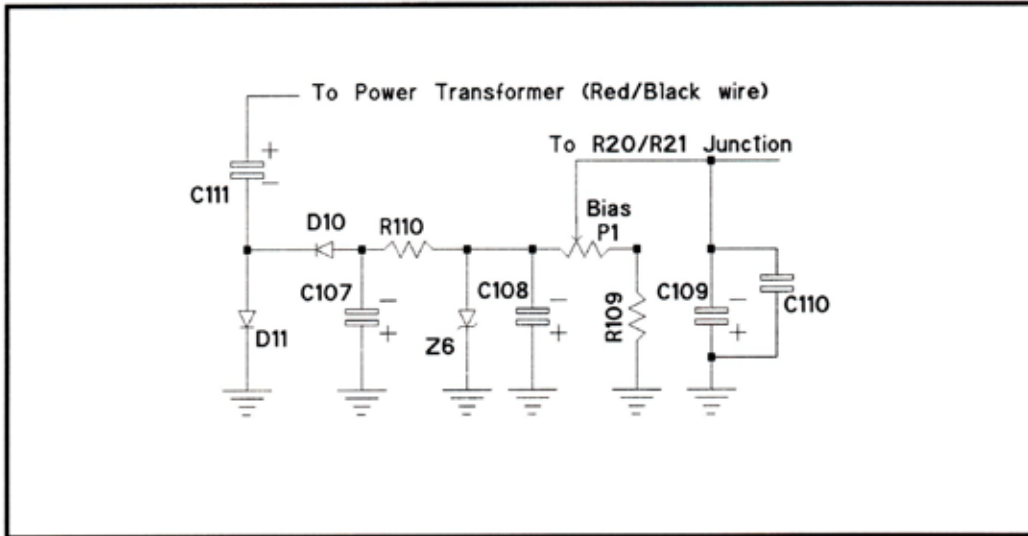

Figure 3. Bias Circuit
- 3) The bias circuitry is hardwired using one or two terminal strips and is best located by the regulator board. Connect all bias circuit grounds to one point on a solder lug of the terminal strip. The bias circuit input connects to the power transformer's red/black lead wire. Be sure to check all polarities of the diodes and electrolytic capacitors. The output of the bias circuit is taken from the wiper (middle terminal) of the bias pot and connects to the resistor network of the output tubes. See figures 3 and 4.